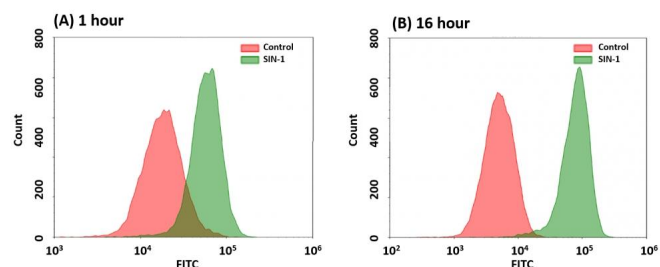

Figure 1.
1. Co-incubate cells with DAX-J2™ PON Green with test compounds in full medium or in your desired buffer at 37°C for desired period of time, protected from light. For control wells (untreated cells), add the corresponding amount of compound buffer. **Note:** It is recommended to stain the cells in full medium. However, if tested compounds are serum sensitive, growth medium and serum factors can be aspirated away before staining. Resuspend cells in 1X Hank's salt solution and 20 mM Hepes buffer (HHBS) or the buffer of your choice after aspiration. Alternatively, cells can be stained in serum-free media. We co-incubated Jurkat cells with 200 µM SIN-1 and DAX-J2™ PON Green in full medium at 37°C for 1 hour to induce peroxynitrite. See Figure 1(A) for details.
2. Alternatively, stain cells with DAX-J2™ PON Green at 37°C for 1 hour, protected from light. Remove the working solution, then treat cells with test compounds in full medium or in your desired buffer at 37°C for desired period of time. See Figure 1(B) for details.